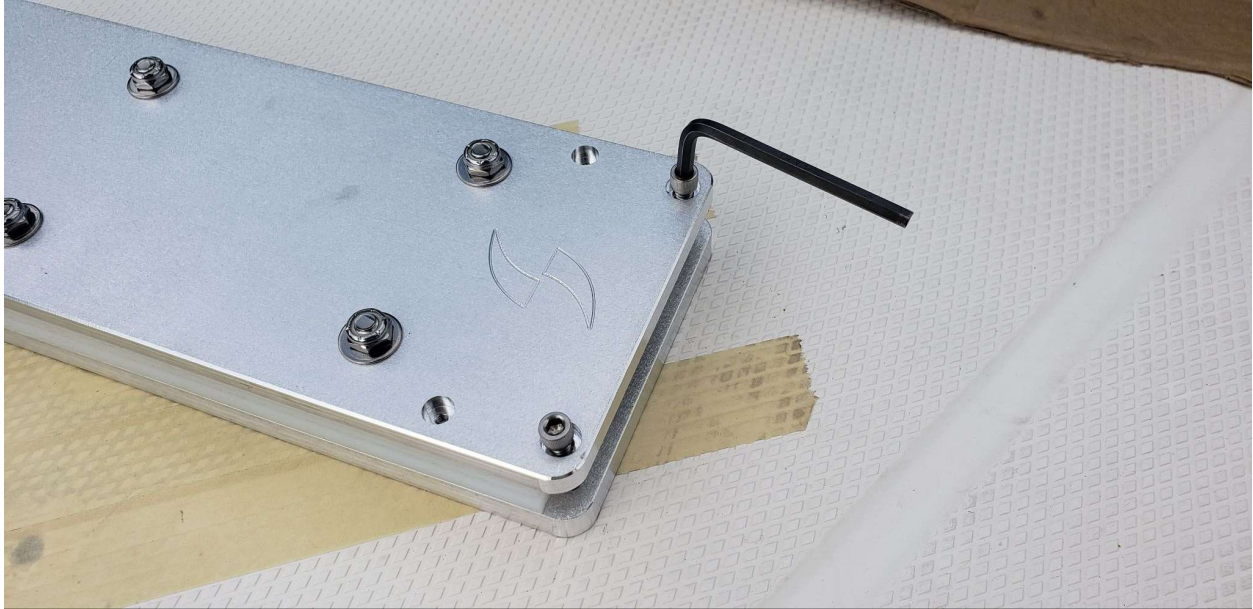

Figure 4.
- Remove the inboard travel stops as shown in Figure 4.